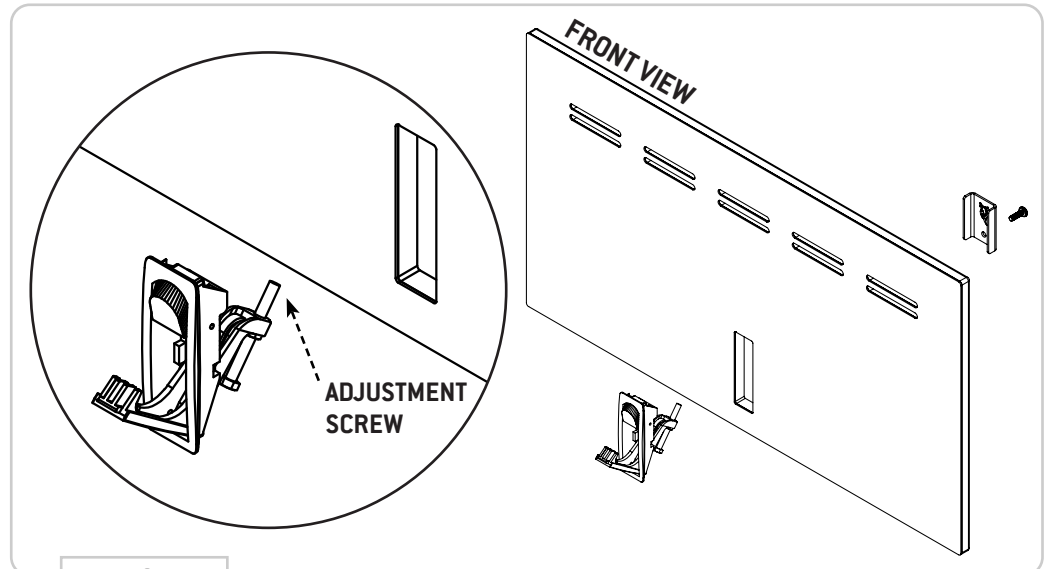

FIG 7
**3.1** Install the **Cabinet Latch** to the **Cabinet Door** in the orientation as shown in **FIG 7**. Start with clearing the end of the latch that houses the adjustment screw through the front slot and it should seat neatly into place.